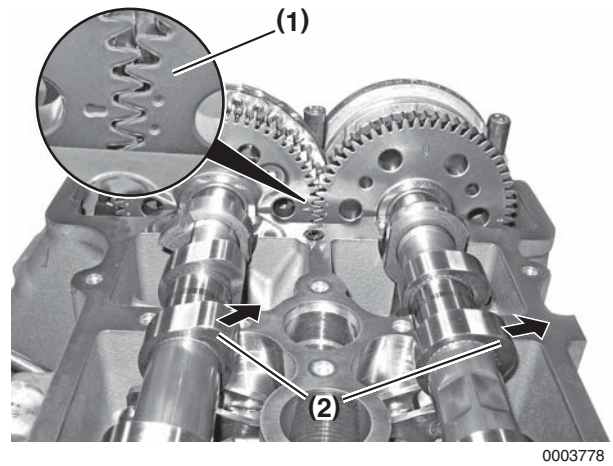

Figure 5-103
3. Install camshafts. Ensure the timing marks (Figure 5-103, (1)) on the gears align as shown. When the timing marks are aligned, the lobes (Figure 5-103, (2)) for cylinder No. 1 will face the exhaust side of the engine.